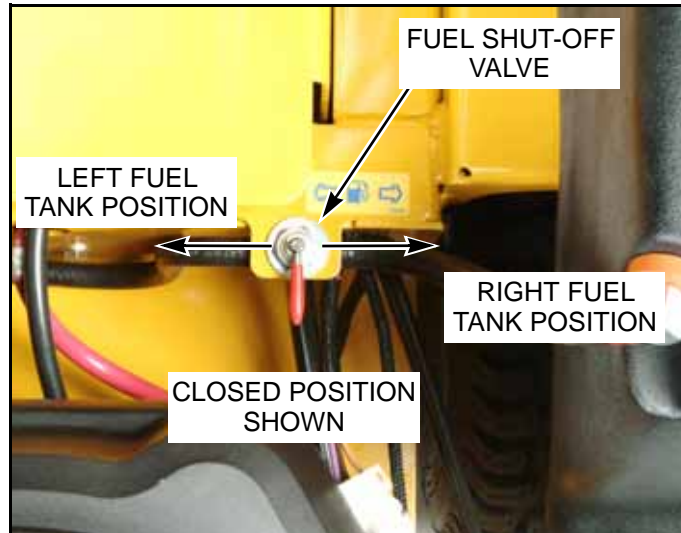

FIG. 10
When replacing the fuel filter, check the fuel line hoses and fuel tank fitting grommets for any cracks or leaks. Replace as needed. A fuel shut-off valve is located to the right rear of the seat (FIG. 10). Close this valve (center position) to prevent fuel flow to the engine. Close this valve when transporting the unit on a trailer or truck.
FasTraks have a fuel shut-off valve (Hustler p/n 7480159) located behind the seat to the right side of the operator (FIG. 10). Close this valve (center position) to prevent fuel flow to the engine. The valve's two other positions are front and rear. To drain a fuel tank equipped with this fuel shut-off valve kit, use the following method:
2. Close fuel shut-off valve (center position) (FIG. 10).